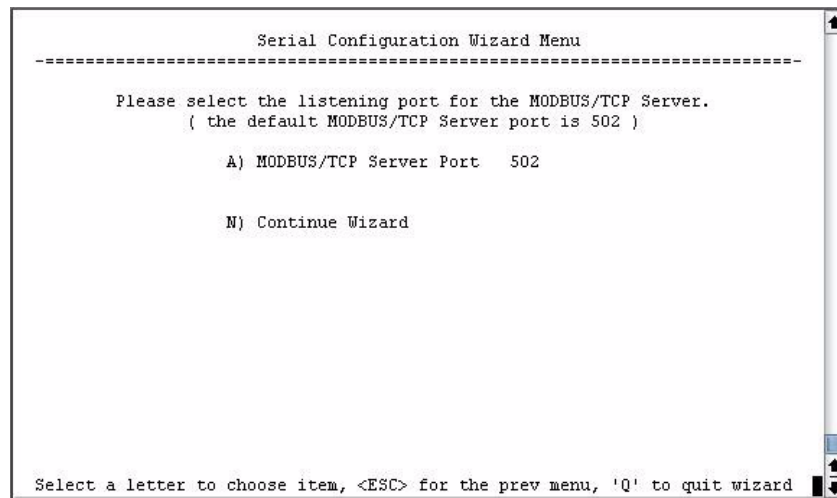

Figure 3-54. Modbus/TCP Server Listening Port
3. On the next screen (Figure 3-54 on Page 89), choose the listening port you wish to use for the Modbus/TCP server. The default is port **502**. Press **N** to continue.